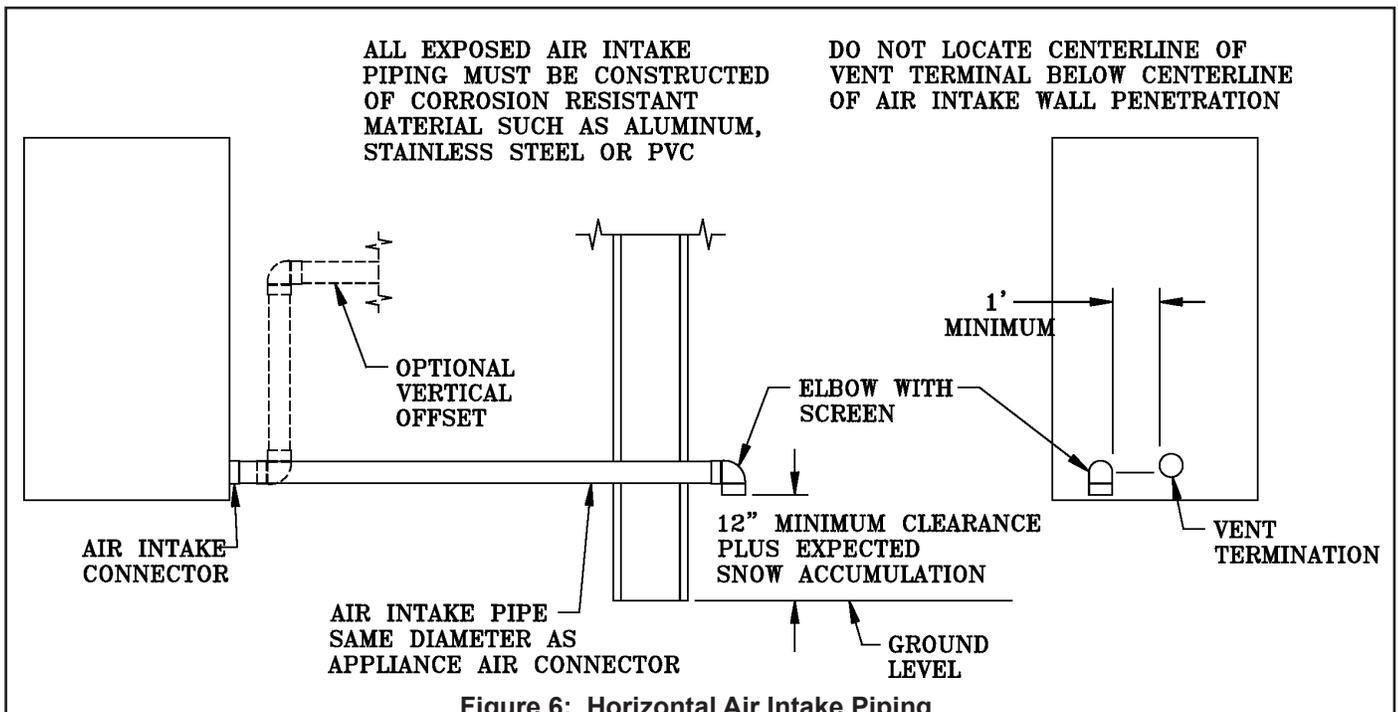

Figure 6: Horizontal Air Intake Piping
**C. COMBUSTION AIR** - See Figures 6 and 7.
4. The maximum air inlet length is fifty (50) equivalent feet. Air inlet length is equal to the total length of straight pipe plus the equivalent length of fittings. Consult conduit manufacturer for equivalent length of fittings and pipe.
6. Air intake termination must be located at least twelve (12) inches above grade plus the expected snow accumulation.
8. The air intake pipe must be adequately supported with straps or supports no less than five (5) feet apart. The completed air intake pipe system must be rigid and able to withstand impacts without collapse.